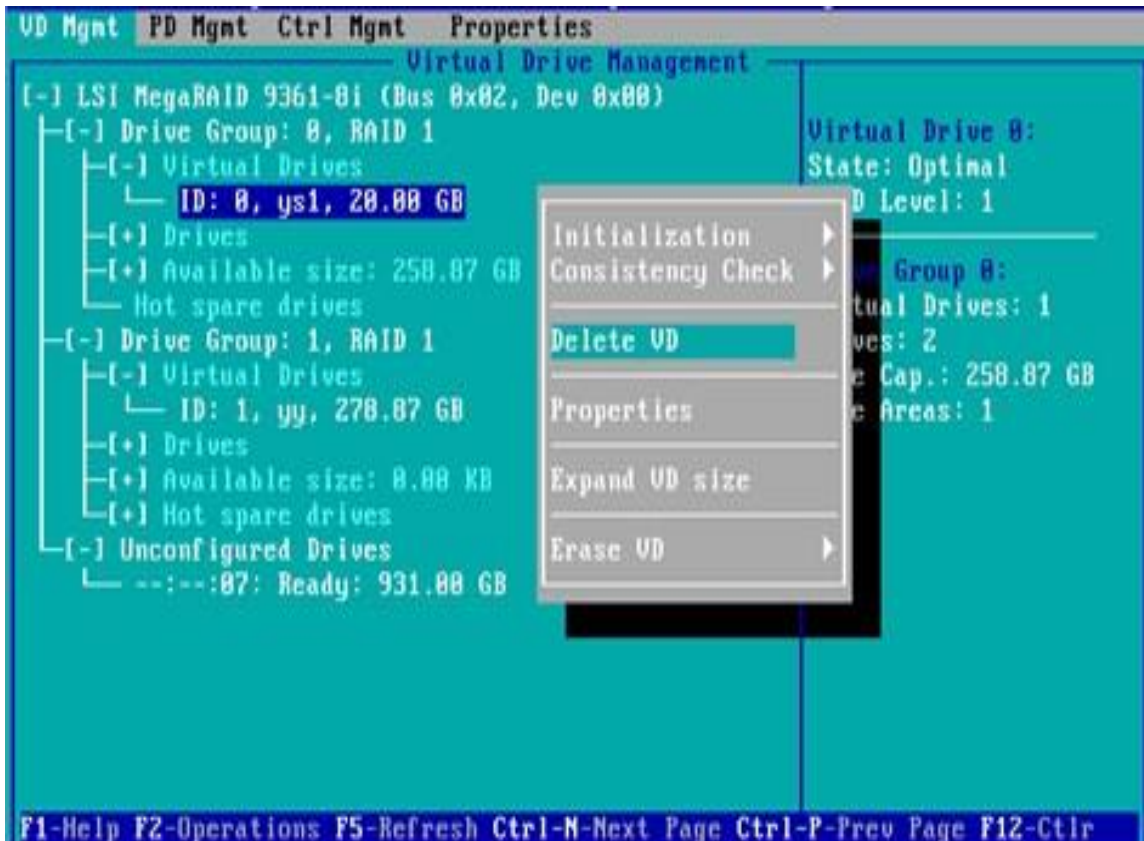

Figure 6-96
- b) Enter the interface shown in figure 6-96, select Delete VD and press enter.